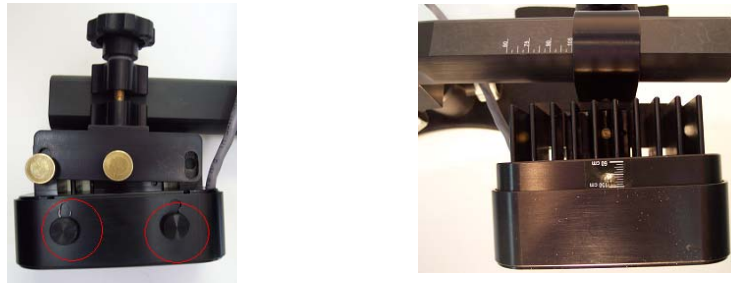

Figure 7-7: Focusing the Illuminator
- 4) *Focus the Illuminator.* The illuminator has a lens on it that will focus the infrared light at different distances. Without removing the black thumbscrews (see Figure 7-7 left) on the underside of the illuminator – loosen them so that the illuminator cover will slide back and forth to reveal an illuminator distance scale. Sliding the cover forward will reveal markings on the scale from 60 cm at the closest eye to camera distance to 150 cm at the furthest (see sticker in Figure 7-7 right). Adjust the cover so that its edge aligns with the marking that approximates your eye to camera distance and then tighten the black thumbscrews.